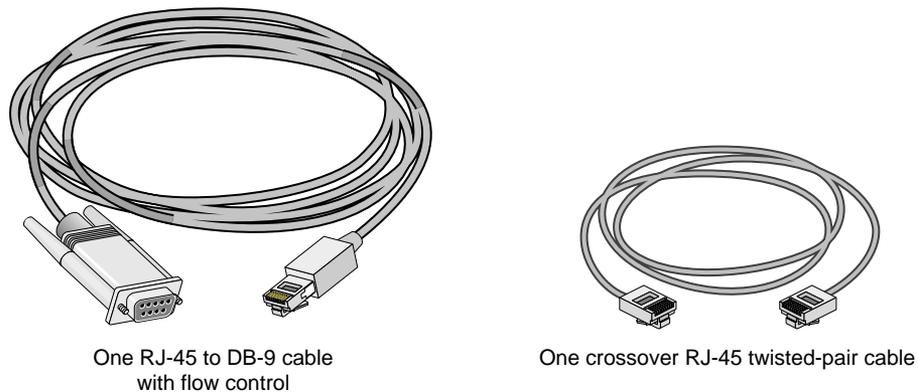

Figure 2-29 Items Needed to Connect SGIconsole to an SGI Origin 3200 Server
3. Make sure that you have the following items (as shown in Figure 2-29):